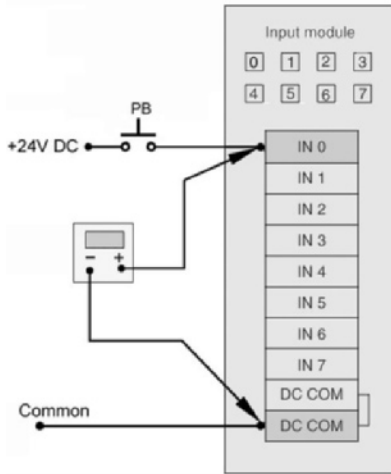

Figure 13-3 Input module circuit for question 31.
31. With reference to the input module circuit of Figure 13-3, a voltmeter reading of 24 VDC would indicate 31._____